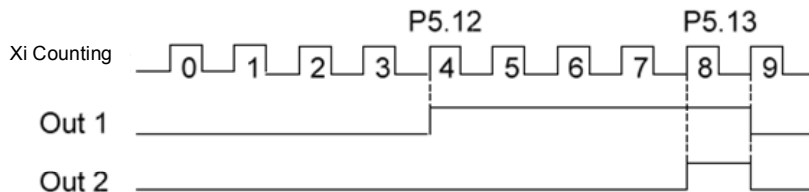

Fig.6-18 Schematic diagram for the preset and reaching counting value reference
2. The terminal Yi is set to “10: Preset counting value action”, and the action sequence is shown as Out1 in Fig.6-18. Effective level will be output when the counting value is between the values of P5.12 and P5.13.
The terminal Yi is set to “11: Reaching counting value action”, and the action sequence is shown as Out2 in Fig.6-18. Effective level will be output and kept till the counting value changes when the counting value